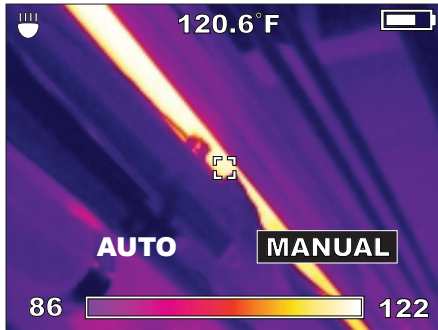

Figure 12. Setting Manual Range
1. From live view mode, press  then select RANGE. The display appears as in Figure 12: